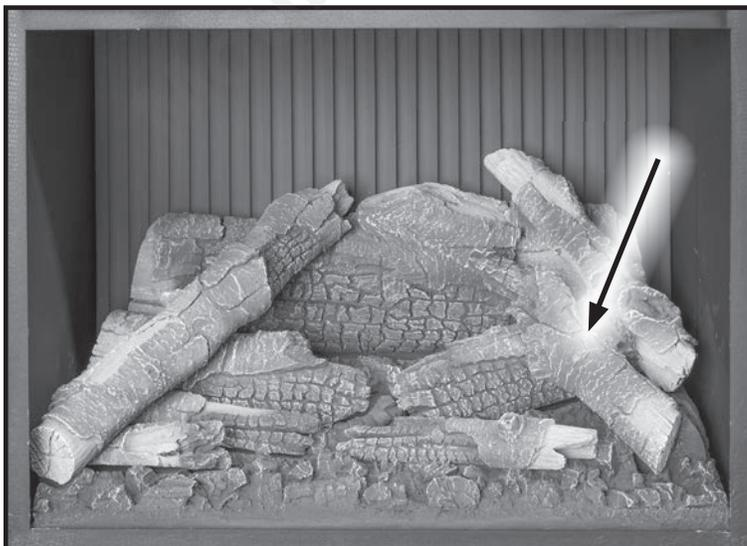

Figure 49. Final Top Log.
7. Install the last log on top, on the right side, as shown in Figure 49. Note the locating notch on the bottom side that matches the half round on top of the large bottom log sitting on the ember bed.